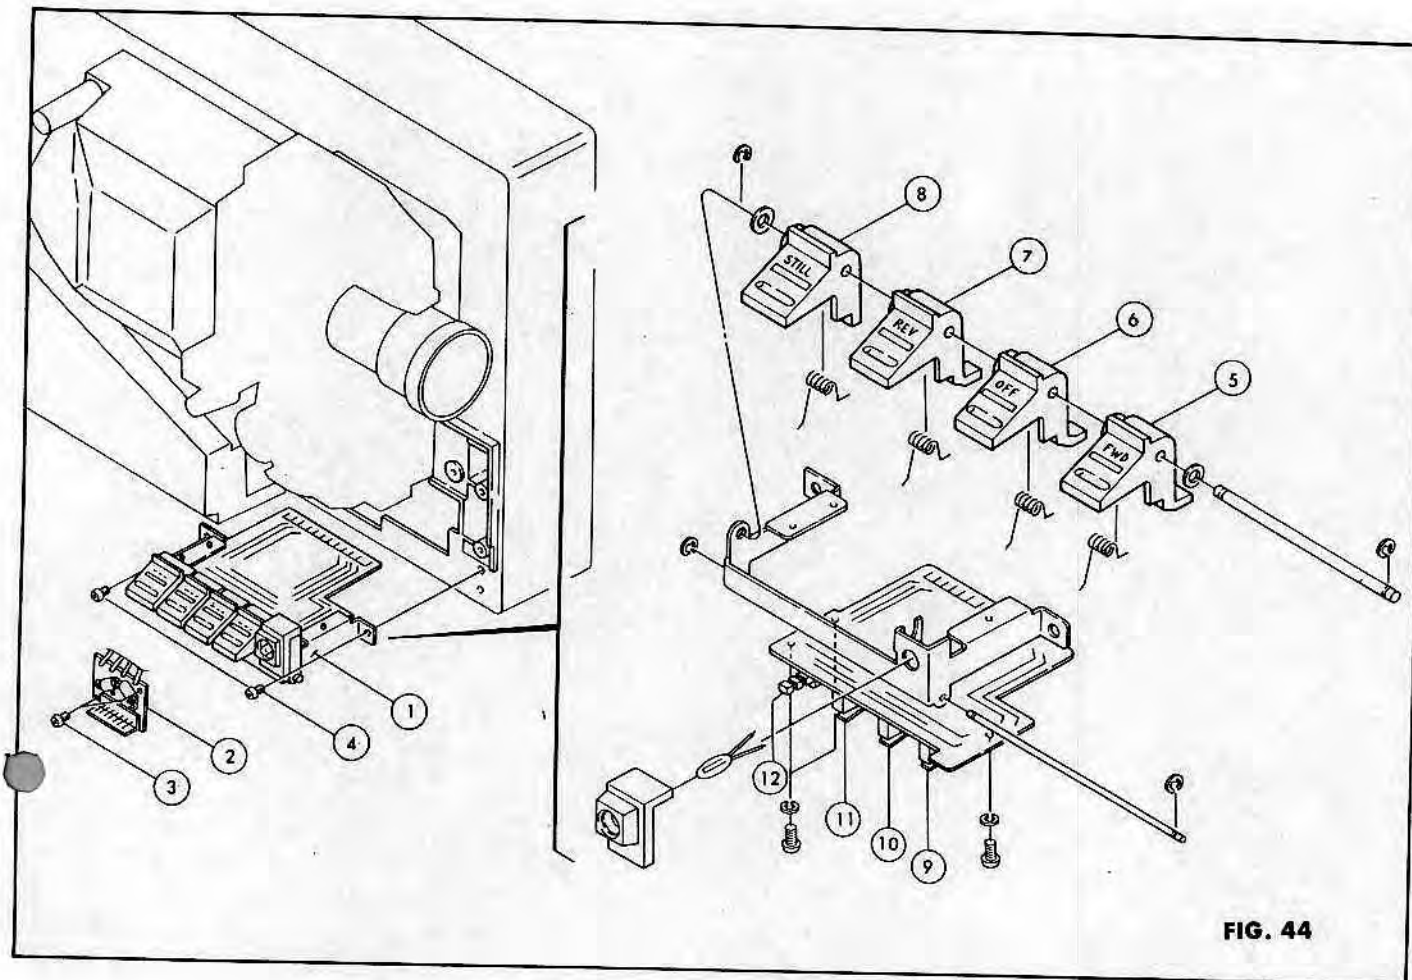

FIG. 44
TROUBLESHOOTING: (Refer to Fig. 44)
1. Unscrew the (3)x2 and lift the (2) up slightly. Don't touch the cancel coil on the (2).
2. Unscrew the (4)x2 and remove the (1).
3. For further disassembly, refer to Fig. 44.